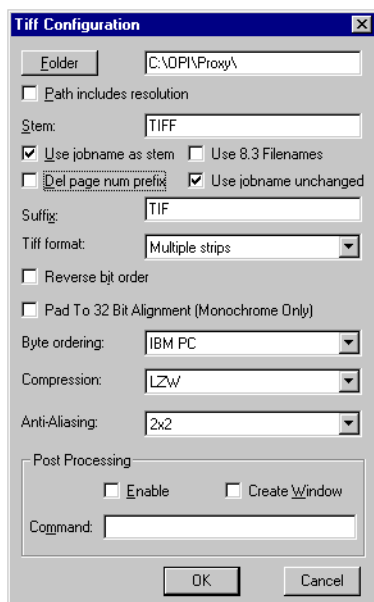

Figure 2 TIFF Configuration Dialog
1. Click the **Configure Device** option from the Page Setup dialog to display the TIFF Configuration dialog, as shown in figure 2.